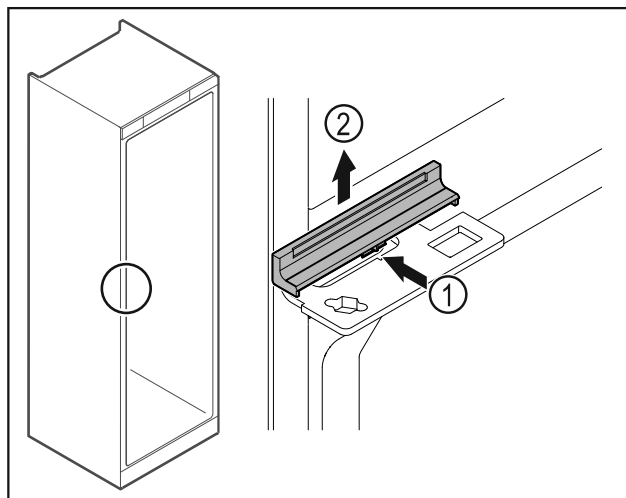

Fig. 37
- Gently press the middle of the cover Fig. 37 (1) and lift it off Fig. 37 (2).